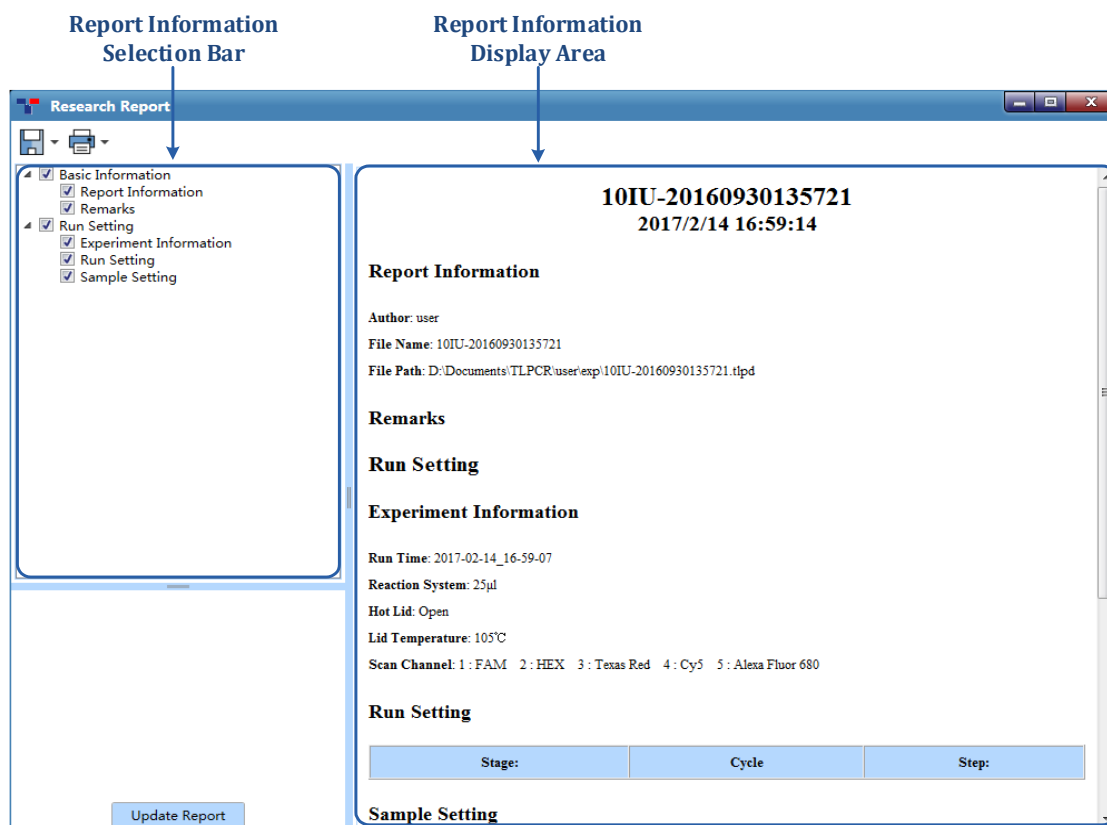

Figure D-3.4 Research Report interface - Research Report
3. **Research Report:** Click **Research Report** option in **Tool** submenu and the application software will automatically pop up the research report interface, as shown in figure D-3.4.